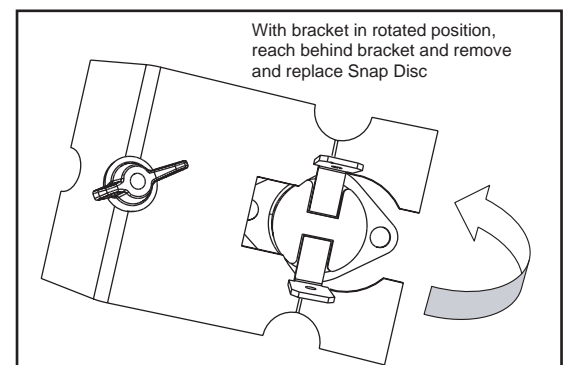

Figure 36.5
- j. Loosen wing nut to relieve the pressure on snap disc from the bracket. The shaded area of the snap disc is inserted into a hole in the feed tube. **NOTE:** You may need pliers to start the wing nut. **Figure 36.5.**